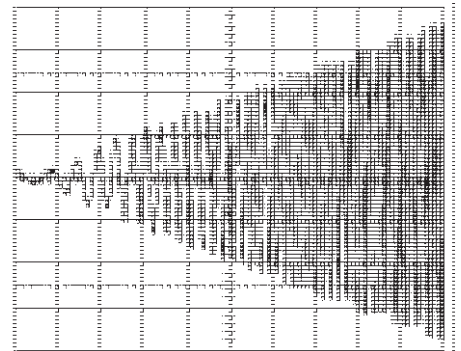

Figure 4 : Voltage-Frequency Sweep @ 4 V / Hz
- **Emulating variable speed drives.** The power source may be operated as the "ideal" variable speed drive, as frequency and voltage can be varied, and even be swept across ranges as needed (see Figure 4). This allows the system integrator to test the driven equipment under any condition. Also, the user can establish (motor) operating temperatures for low speeds, check required skip ranges, determine the required peak current levels, and even test braking and reversed rotation capabilities.